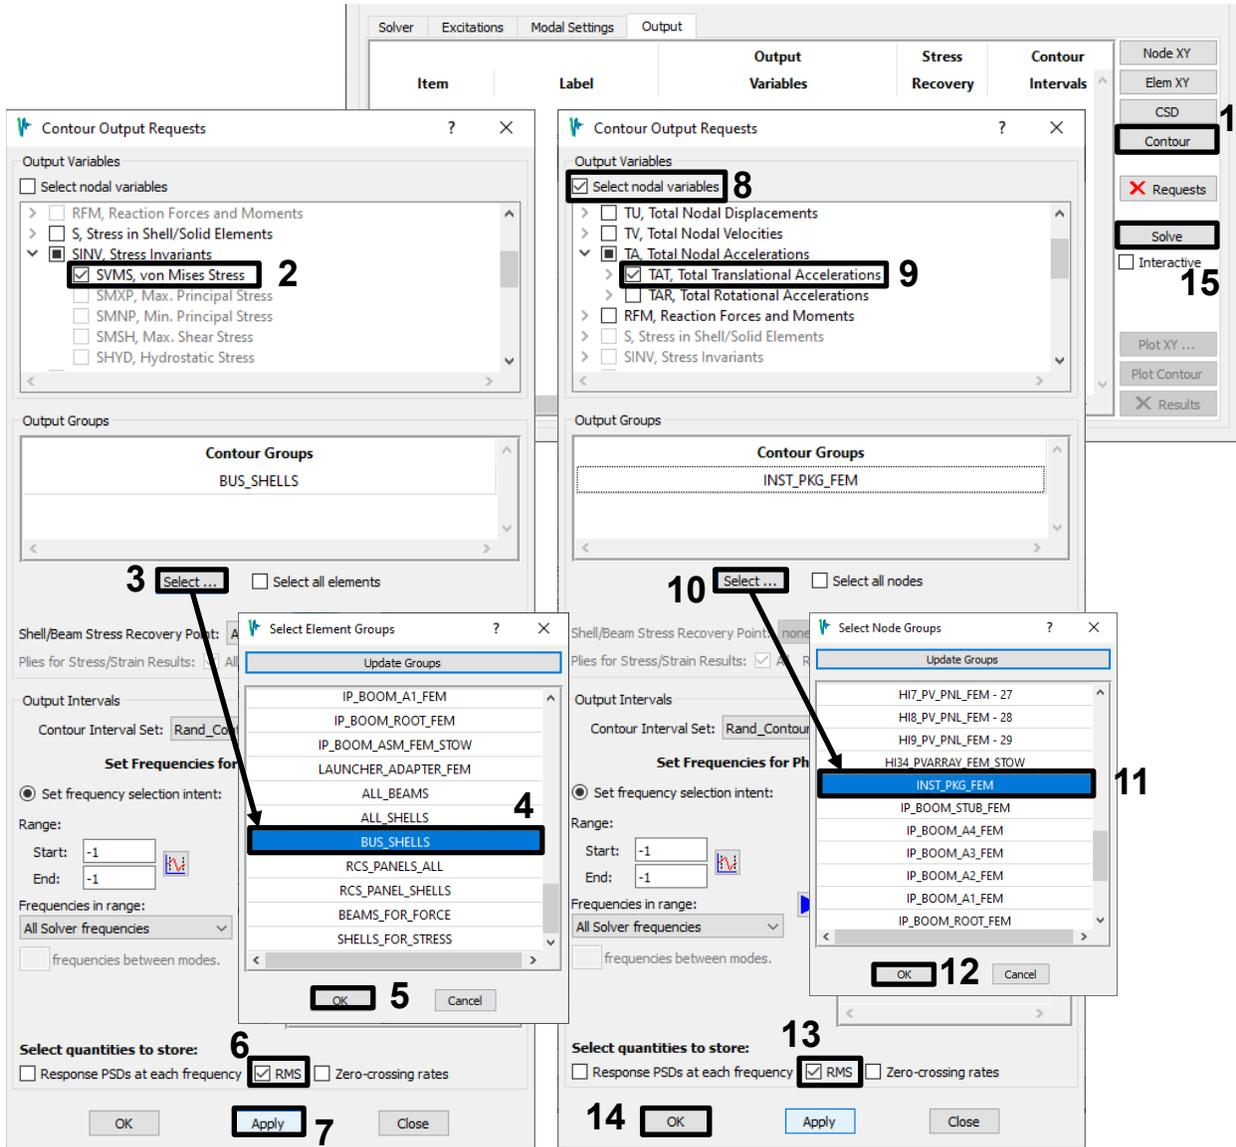

Figure 4-43. Request SVMS for the BUS\_SHELLS and TAT for the INST\_PKG\_FEM; only RMS output.
5. The Instrumentation Package contains scientific instruments that may be damaged by excessive vibration, and we want to be sure the satellite bus will not be overstressed. Click the **Contour** button on the *Output* tab to open the *Contour Requests* dialog. In its *Output Intervals* panel, make sure that only *RMS* output is checked. Request Von Mises stress (*SVMS*) for the *BUS\_SHELLS* group, click **OK** and **Apply**, then turn on the *Select nodal variables* toggle and request total translational acceleration (*TAT*) for the *INST\_PKG\_FEM* group (Figure 4-43). Click *Done*. Back on the *Output* tab, click the **Solve** button. Even with FastRMS turned off, the solution does not take long.